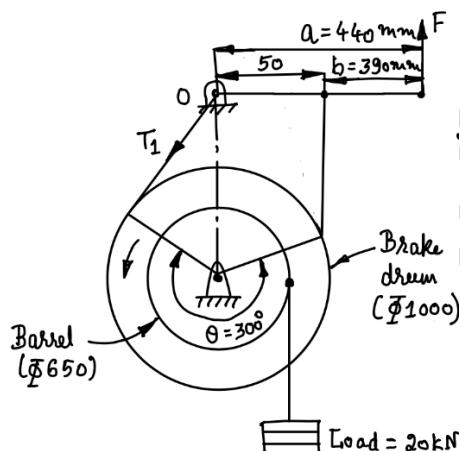

Figure 3b
b) A band brake of a crane is actuated by a lever, the free end of which is pulled in the upward direction in order to apply the braking action. The lever length is 440 mm. The tight end of the band is attached to the fulcrum and the slack end to a pin, 50 mm from the fulcrum as shown in the Figure 3b below. The diameter of the brake drum is 1000 mm and that of the barrel is 650 mm. Determine the actuating force at the end of the brake lever in order to withstand a load of 20 kN. Assume coefficient of friction as 0.35 with angle of lap as  $300^\circ$ . 12